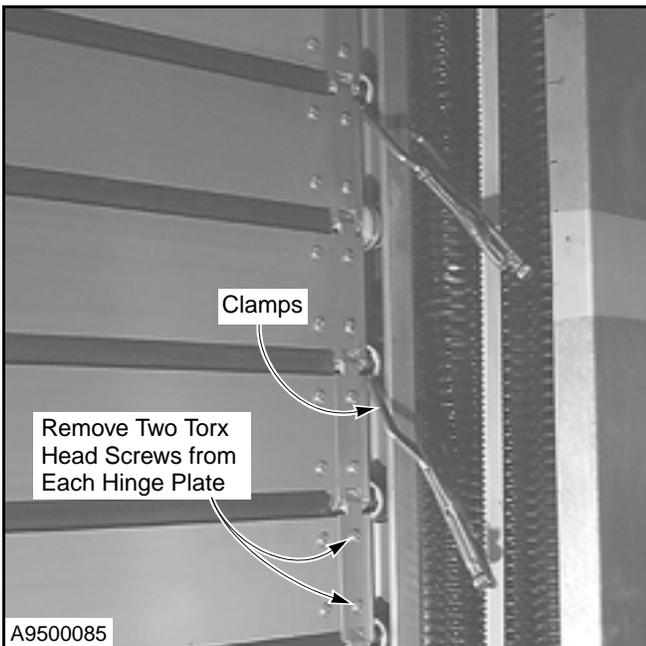

Figure 73
4. Once the door is positioned, clamp both sides of the door to the vertical track. Position clamps along both edges of the door. (See Figure 73.)
6. Remove the TORX® head screws from the hinge plates along both sides of the roller to be removed. (See Figure 73.)